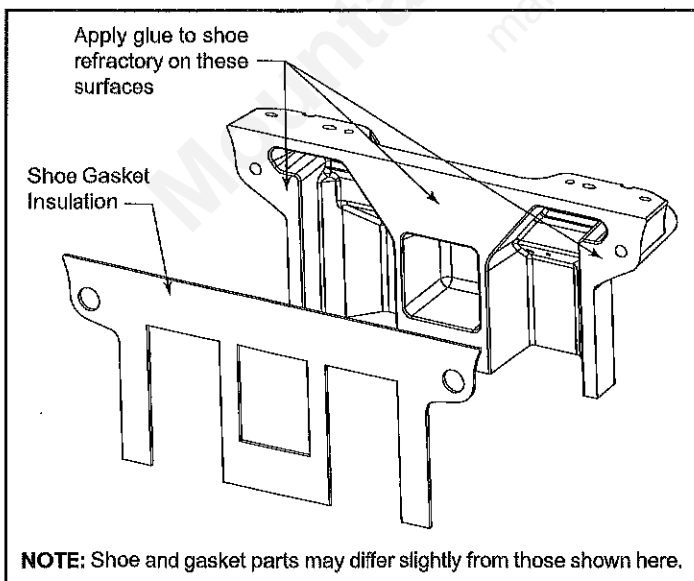

Figure 5 - Shoe Gasket
- Apply a layer of the glue supplied using the glue stick along the bottom of the shoe refractory. Install the correct shoe gasket onto that surface. Figure 5.